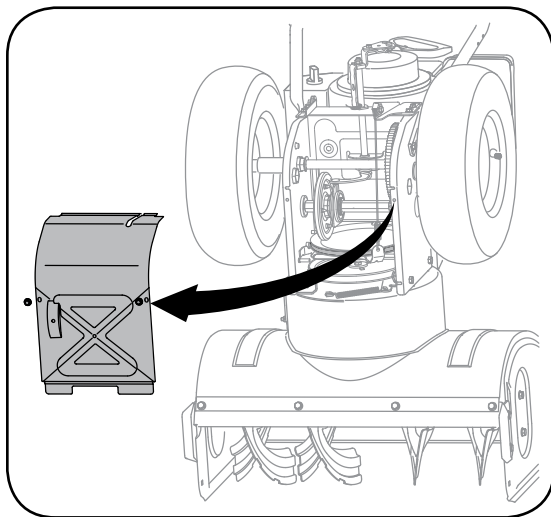

Figure 6-10
2. Remove the frame cover from the underside of the snow thrower by removing four self-tapping screws which secure it, Figure 6-10.